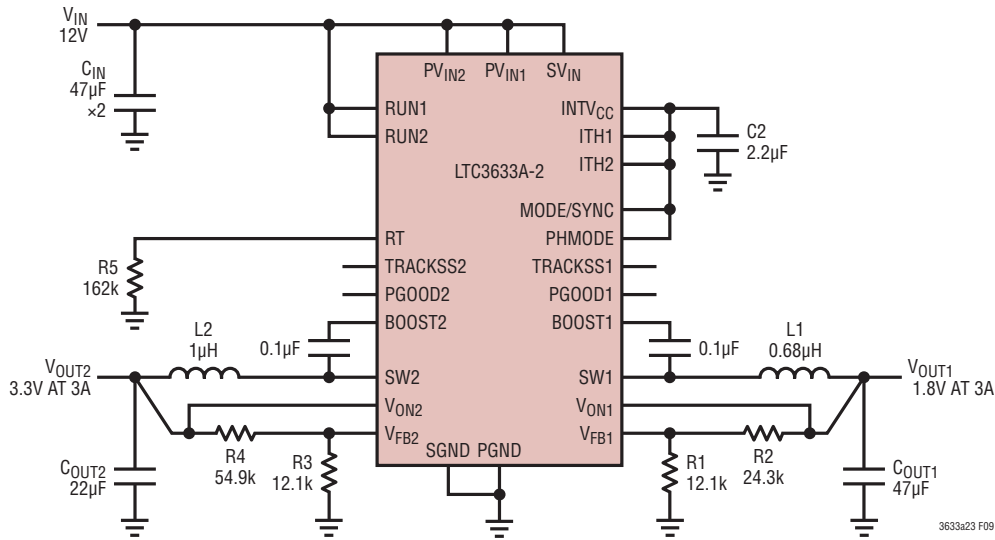

Figure 9. Design Example Circuit
- 3) The resistive divider, (e.g. R1 to R4 in Figure 9) must be connected between the (+) plate of  $C_{OUT}$  and a ground line terminated near SGND. The feedback signal  $V_{FB}$  should be routed away from noisy components and traces, such as the SW line, and its trace length should be minimized. In addition, the  $R_T$  resistor and loop compensation components should be terminated to SGND.
The final circuit is shown in Figure 9.